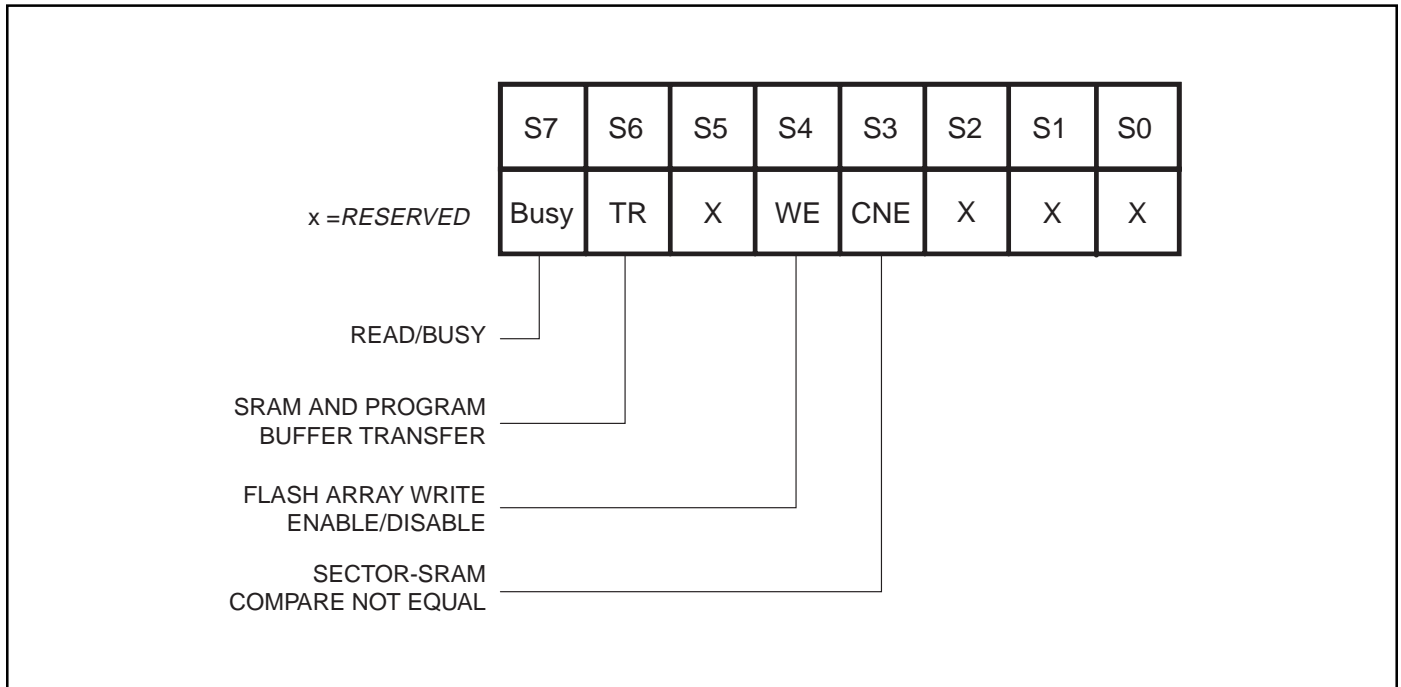

Figure 8. Status Register Bit Locations
The Status Register provides status of the Flash array's Ready/Busy condition (R/B), transfers between the SRAM and program buffer (TX), Write-Enable/Disable (WE), and Compare Not Equal (CNE). The register can be read using the Read Status Register command (Figure 8).